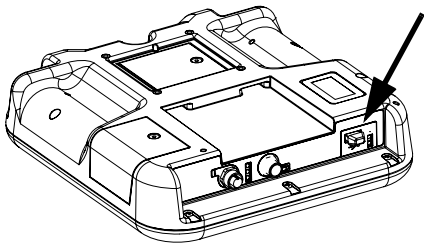

FIG. 68: ADM USB Port
1. Insert USB flash drive into USB port. See FIG. 68.